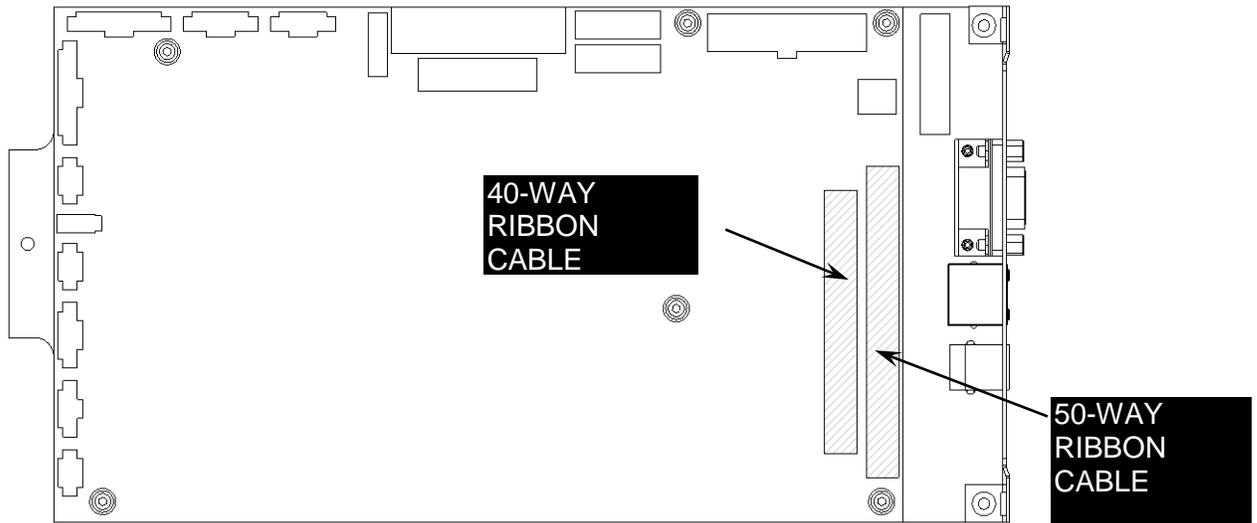

Figure 14-11: Cable Connections, Part 4
4. Plug in the 50- and 40-way ribbon cables into the I/O Board (Figure 14-11).